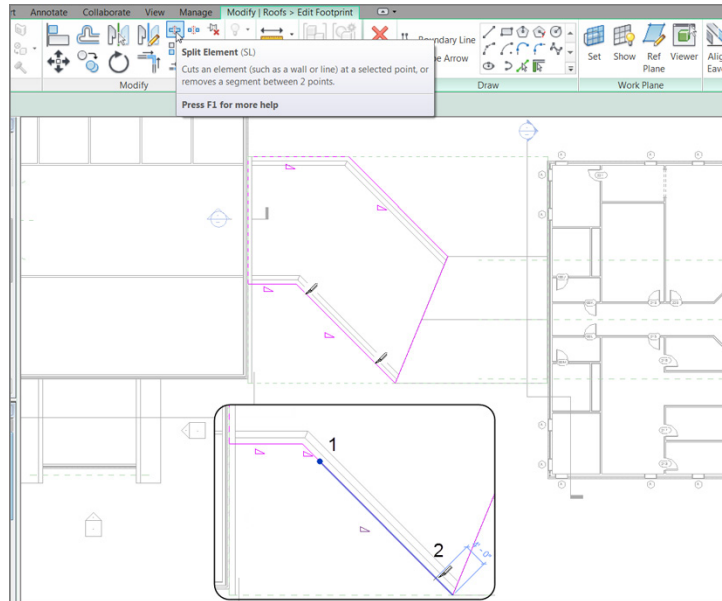

FIGURE 7.60: Splitting the line into three pieces
1. On the Modify | Roofs > Edit Footprint tab, select the Split Element button, as shown in Figure 7.60.
3. Pick two points on the roof edge (see Figure 7.60).